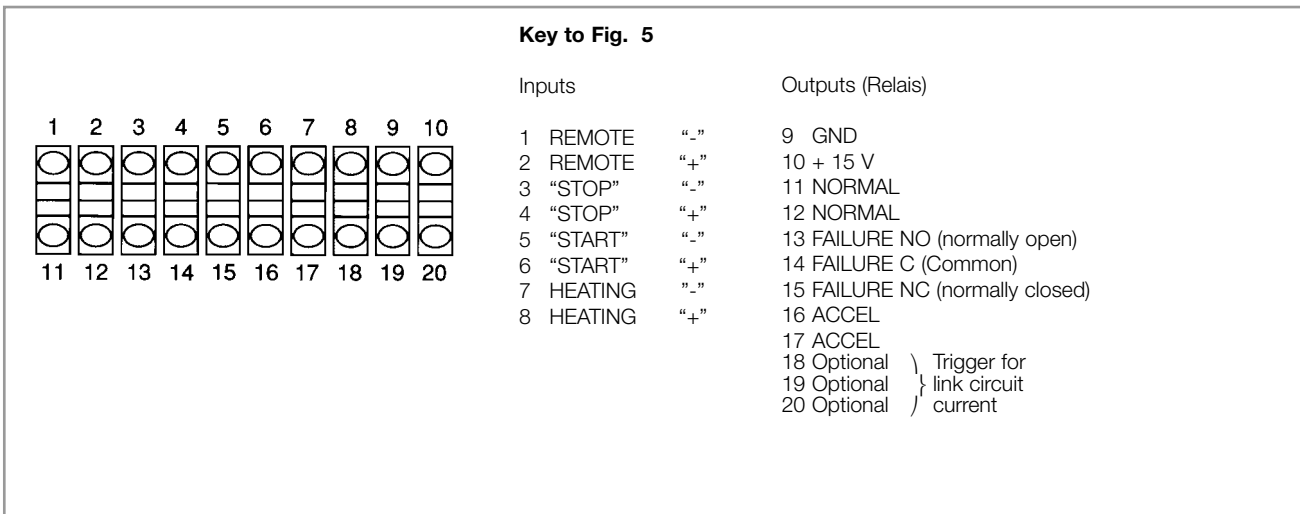

Fig. 5 TURBOTRONIK NT 20, rear panel; assignment of the terminal strip (3/5)
- 5 Connection terminal strip; see also Fig. 5
13/14 Fig. 5	14/15 Fig. 5
For the signal assignments of the terminal strip (3/5) refer to fig. 5.